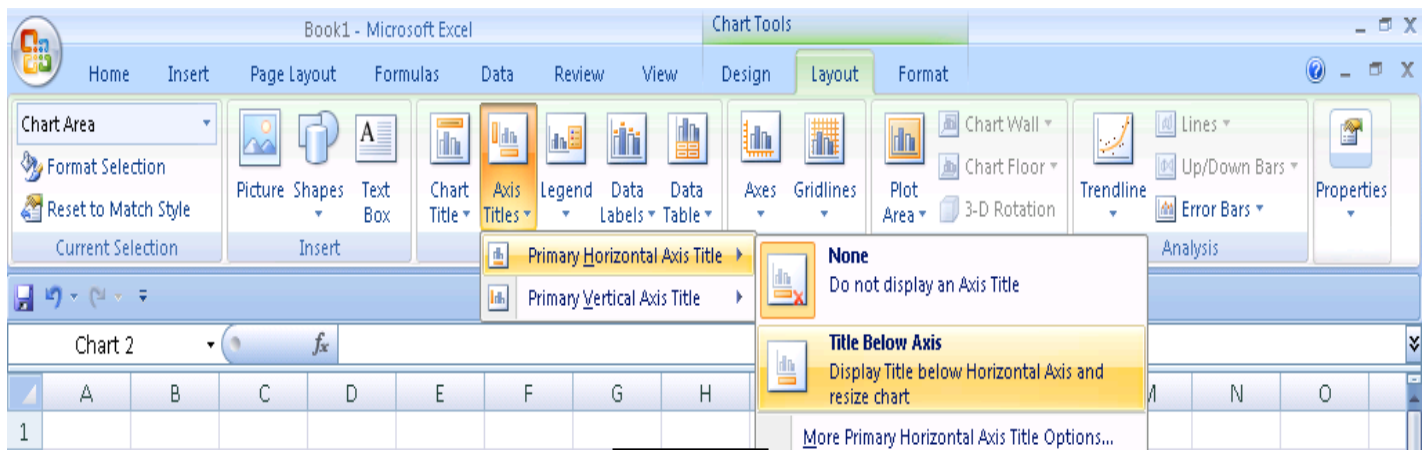

Figure-5
5.11 After, click “Axis Titles” icon as per shown in **Figure-5**.
5.12 Click the “Primary Horizontal Axis Title” sub icon and select the “Title Below Axis” as per shown in **Figure-5**.